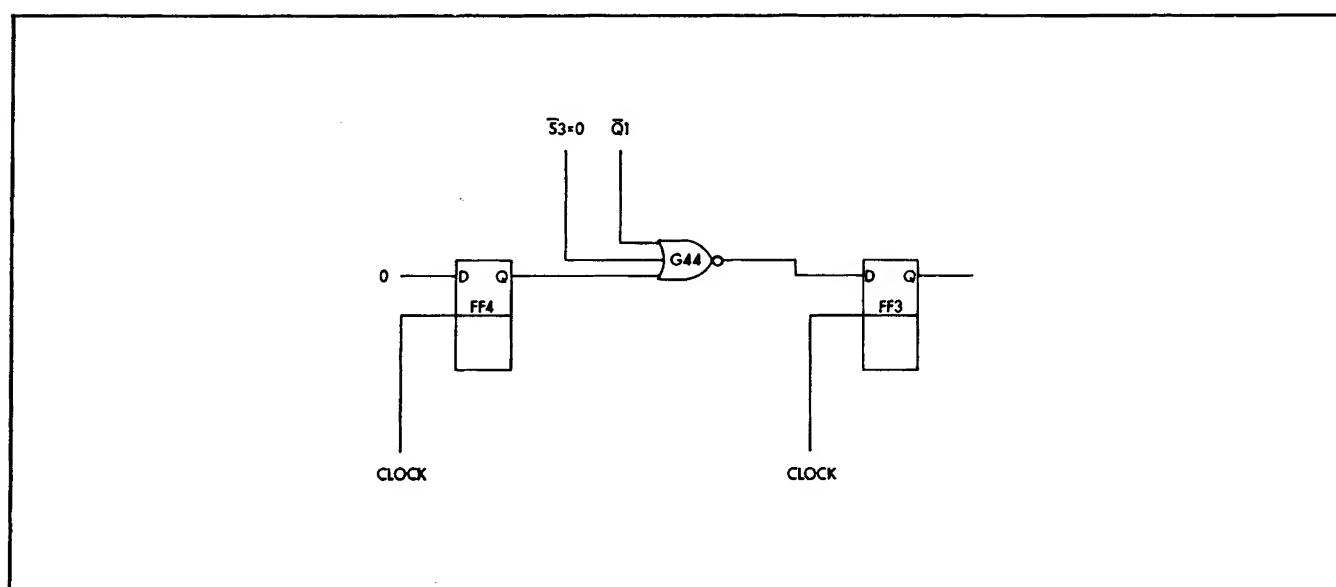

Figure A32/33-5 Interstage Coupling
- (i) From the table of PRBS sequence length programming inputs given in Figure A32/33-4 it can be seen that when  $n = 3$ , inputs  $\overline{S15}$  to  $\overline{S5}$  are all 1.  $\overline{Q15}$  and  $Q14$  to  $Q5$  are therefore held at 0 (see Word Length Programming).  $\overline{Q5}$  inhibits G41 and G42 and since  $\overline{S4}$  is 1, G40 is also inhibited and the input to FF4 is held at 0.  $\overline{Q4}$  inhibits G45 and G46 and the feedback loop from FF1 to FF3 is completed via G44 which is enabled by  $Q4$  and  $\overline{S3}$ . This is shown in Figure A32/A33-5.